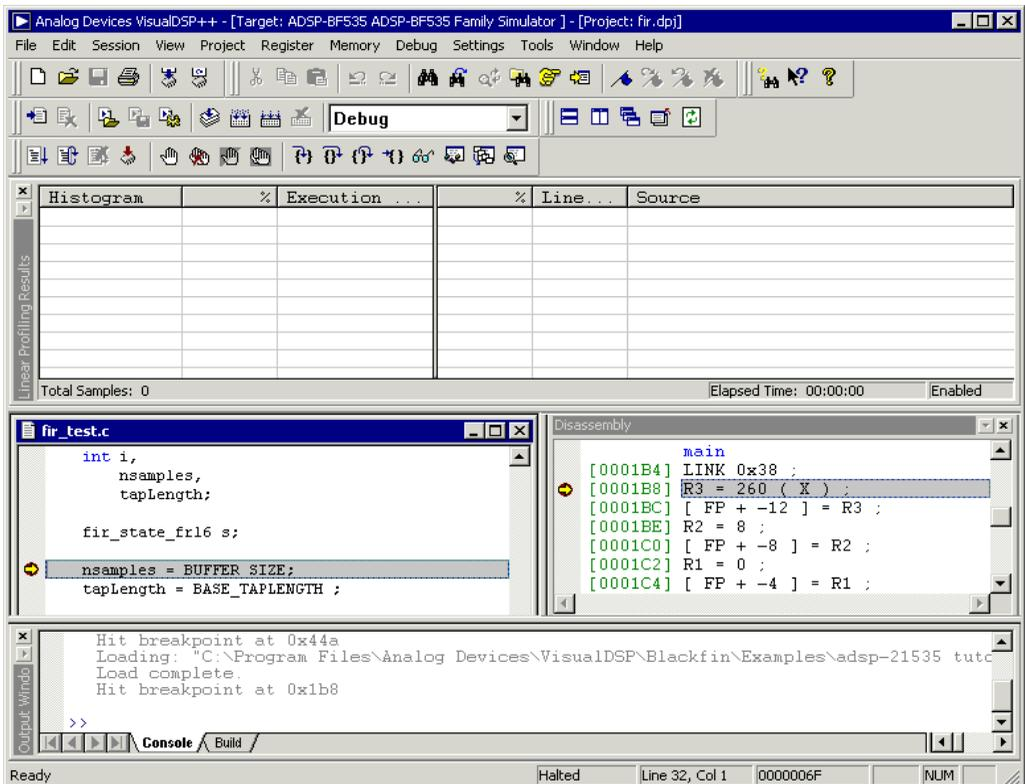

Figure 2-37. Linear Profiling Results Window (Empty)
- For a better view of the data, use the window's title bar to drag and dock the window to the top of the VisualDSP++ main window, as shown in Figure 2-37.